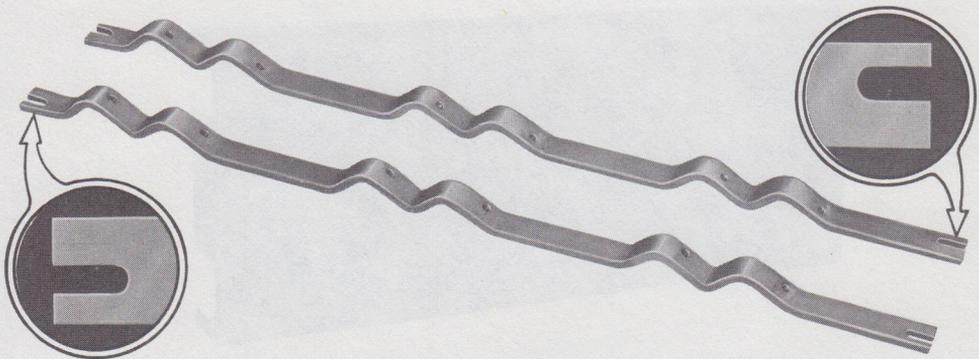

Fig. 42—Bent Mounting Bars Per ED-69143-70
- 6.06 The bent mounting bars per ED-69143-70† (Fig. 42) are used to mount angle-bracket